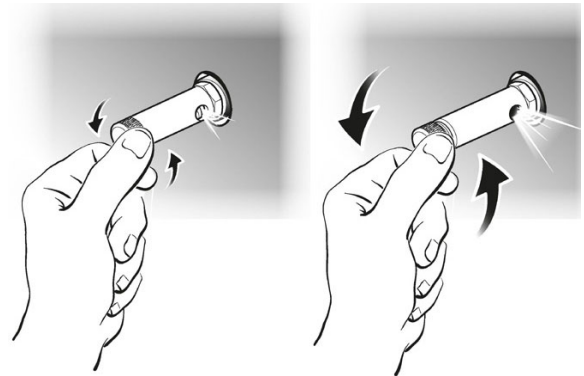

Fig. 15: Safety valve with ring nut
To increase the pressure, turn the regulating screw (pos. 1, fig. 15) on the top of the pressure switch clockwise. To decrease the pressure, turn it anticlockwise.
To increase the distance between cutting in and cutting out, turn the gear wheel under the spring (pos. 2, fig. 15) to the right with a screwdriver.
Open the safety valve (Fig. 15) by pulling the ring briefly outwards until compressed air escapes, and release it again (the pressure vessel must be under pressure).